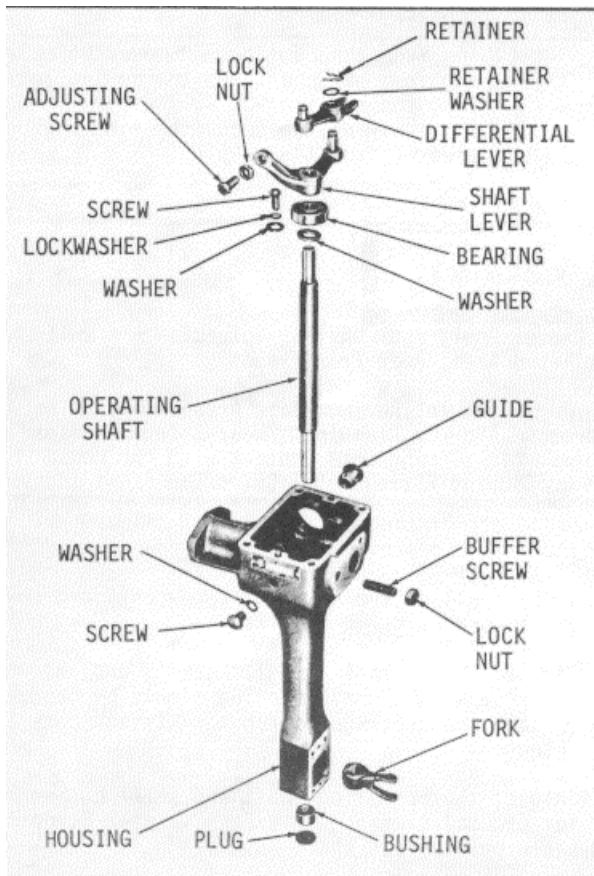

Fig. 5
(a) Place the control housing (Fig. 5) in the soft jaws of a vise.
(f) Support the control housing bottom side up on the bed of the press. Use a brass rod and press the operating shaft from the operating fork (Fig. 7). Withdraw the operating shaft, operating lever and bearing as an assembly from the control housing (Fig. 5).
- (1) Place the bearing washer (Fig. 5) over the short, finished end of the operating shaft. Start the bearing over the end of the shaft. Support the opposite end of the shaft on the bed of the press. Using a sleeve having the same diameter as the bearing inner race, press the bearing on the shaft tight against the washer.
- (2) With the pivot pin in the operating lever up, start the lever over the end of the shaft with the flat on the shaft registering with the flat surface in the lever. Press the lever on the shaft tight against the bearing.